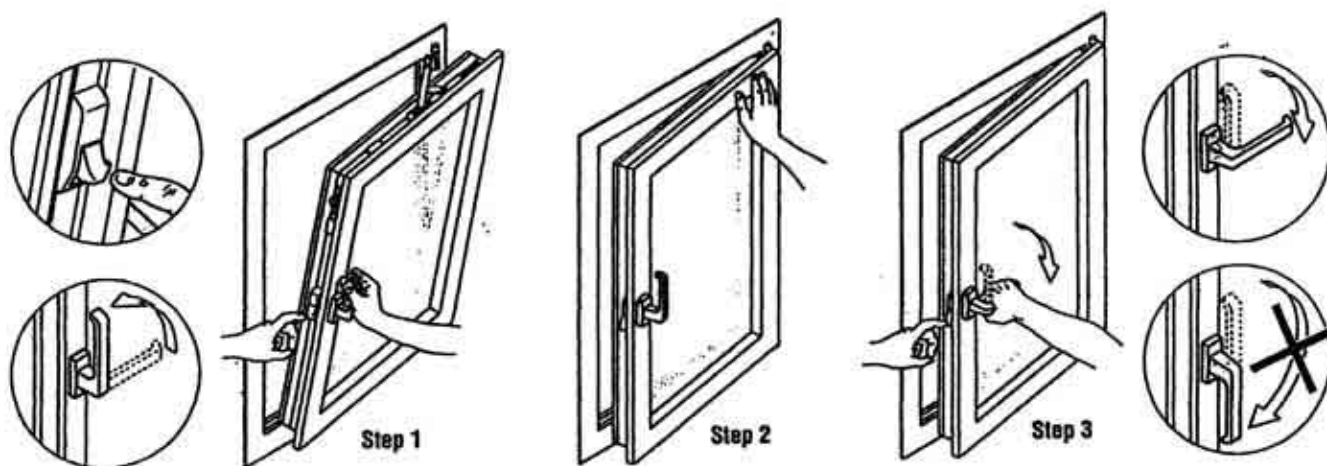

Figure 2-23.
- Step 1 Depress the fail safe switch and turn the handle to the tilt position. See fig. 2-23.